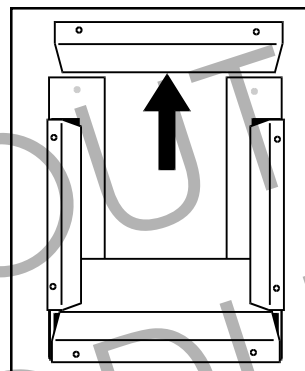

Figure 7.
7. Remove back portion of rainguard (see Figure 7).